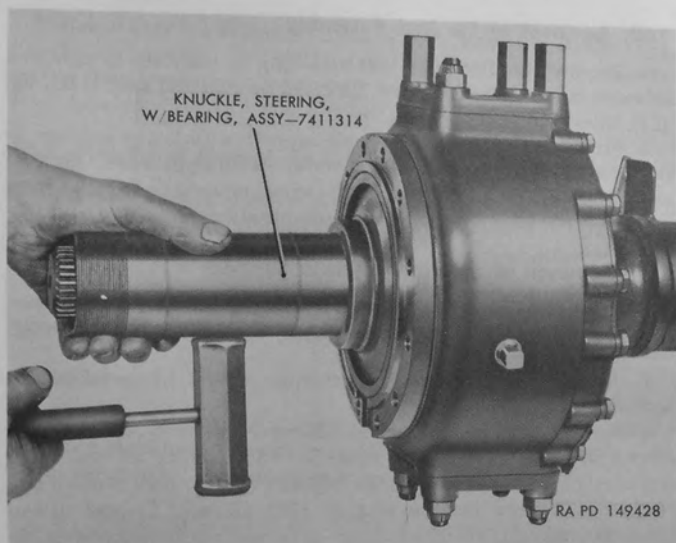

Figure 110. Removing steering knuckle.
a. Remove Steering Knuckle.—Use brass or soft hammer (fig. 110) to tap steering knuckle ((F), fig. 109) on all sides to loosen knuckle from steering knuckle support ((MM), fig. 109). When loose, pull knuckle straight outward to complete removal. Remove and discard gasket ((K), fig. 109) from knuckle or support.